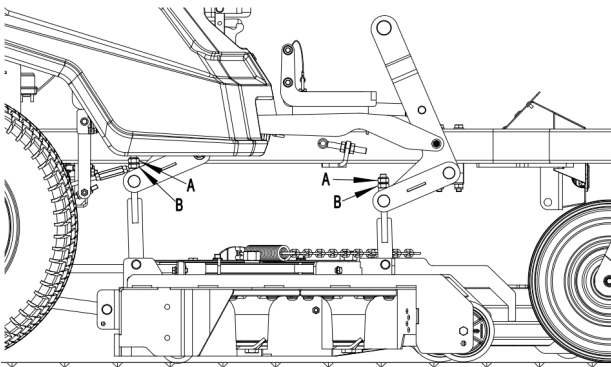

Fig. 17
- Locate the level adjust nut (A) and nut (B) on the front right mower deck hanger (Refer to Fig. 17).
- Slightly loosen the nut (A) on the mower deck hanger.